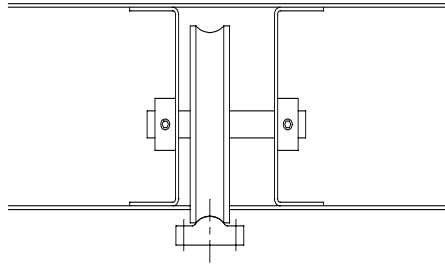

Figure 8
2. If necessary, adjust the wheels to ensure that the concave guide wheels fit squarely on the raised (convex) portion of the rail. (See Figure 8).